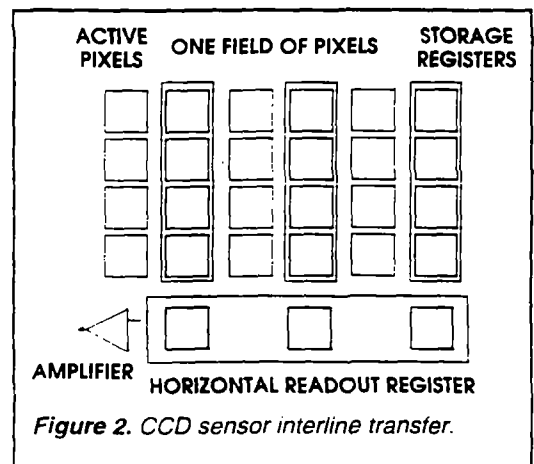

Figure 2. CCD sensor interline transfer.
The interline-transfer sensor's active pixel area and storage register are both contained within the active imaging area (Figure 2), and the active array of this device contains a full frame of pixels (494). Each column of active pixels is separated by a column of storage elements that can store one field. This configuration reduces size and cost in manufacturing the sensor but limits the ability to acquire full-frame vertical resolution, so a strobe or electro-optical/mechanical shutter is necessary for high-speed production lines.